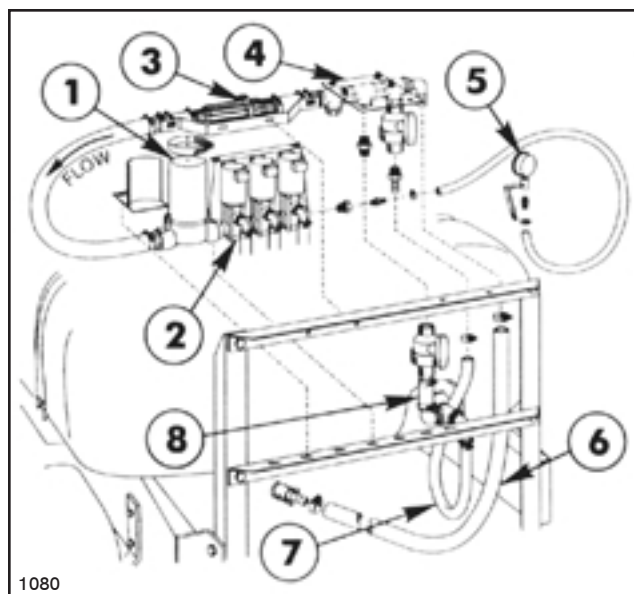

FIG. 16
1. Apply thread sealer and install the 1" x 3/4" Reducing Nipple in the outlet port of the Motorized Control Valve and the 1" Hose Barb in the inlet port. Connect the Motorized Control Valve and the Solenoid Assembly by screwing the two together. See FIG. 16.
2. Apply thread sealer and install a 3/4" 90° Hose Barb into the outlet port of the each Solenoid Valve. Install 3/4" x 1/4" Reducer Bushing and 1/4" x 3/8" Hose Barb in the end of Solenoid Assembly. See FIG. 16.
3. Loosely attach the Motorized Control Valve Bracket to the Lower Cross Support with (2) 5/16" x 3/4" hex flange hd. screws and flange lock nuts.
4. Install two (2) Grommets in 1" holes in Solenoid Mounting Bracket.
5. Slide head of M6 x 16mm hex hd. screw to the top of the mounting groove of each Solenoid Valve. Assemble Motorized Control Valve and Solenoid assembly to the Solenoid Mounting Bracket using three (3) M6 x 16mm screws just installed. Secure with three (3) M6 nuts and lockwashers.
6. Install Valve and Bracket assembly to the Lower Cross Support as shown in FIG. 16. Secure with two (2) 5/16 x 3/4 hex flange hd. screws and flange lock nuts.
8. Connect the three (3) 3/4" x 50" Boom Feeder Hoses to the 90° barbs in the Solenoid Valves and secure with hose clamps.
11. Assemble the Pressure Gauge and the 1/4" x 3/8" 90° Hose Barb to the Gauge Bracket. Remove the protective cap and mount the bracket to the carriage bolt in the rear Tank Band, using a 5/16" flange lock nut (FIG. 16).
12. Connect the Pressure Gauge to the Solenoid assembly with the 3/8" x 36" hose. Secure the hose with hose clamps (FIG. 16).
1. Apply sealer and install the 1" x 1-1/4" Hose Barb into the LH end of the Tee Assembly and a 1" x 3/4" Hose Barb into the existing Ball Valve at the Tee Assembly (FIG. 16).
2. Remove the pipe plug in the bottom of the middle tee. Apply sealer and install a 1" Close Nipple, 1" Ball Valve, and a 1" x 1" Hose Barb (FIG. 16).
3. Mount the Tee Assembly and bracket to the Upper Cross Support with (2) 5/16" x 1" hex hd. caps screws, flatwashers, lockwashers, and nuts (FIG. 16).
5. Mount the Flowmeter Bracket to the Upper Crossmember using (2) 5/16" x 3/4" hex flange hd. screws and flange lock nuts. See FIG. 16.
6. Slide the inlet end of the Flowmeter Assembly on the 1-1/4" hose barb in the Tee Assembly. Secure with (2) hose clamps. See FIG. 16.
7. Connect one end of the 1" x 30" hose to the Motorized Control Valve and connect the opposite end to the adapter in the Flowmeter Connector Hose. Secure with hose clamps. See FIG. 16.
8. Apply sealer and install the 1" 90° Hose Barb in the Rear Tank Tee (FIG. 16).
9. Install 1" Quick Coupler on the end of the 1" x 100" Supply Hose and secure with hose clamp. Connect the Supply Hose to discharge port on the Pump with Quick Coupler. Route the hose along left side of the vehicle under Tank, connect the other end of hose to the 90° Hose Barb at the RH end of the Tee Assembly and secure with a hose clamp. See FIG. 16. Secure hose at cable mounting bracket and rear cross member with tie straps.
11. Connect the 3/4" x 28" Agitator Hose to the RH Ball Valve and connect the other end to the Hose Barb in the Rear tank Tee. Secure the hose with hose clamps. See FIG. 16.
12. Connect the 1" x 5" Connector Hose between the Ball Valve in the center tee and the 90° Hose Barb in the left side of the Rear Tank Tee. See FIG. 16. Secure with hose clamps.